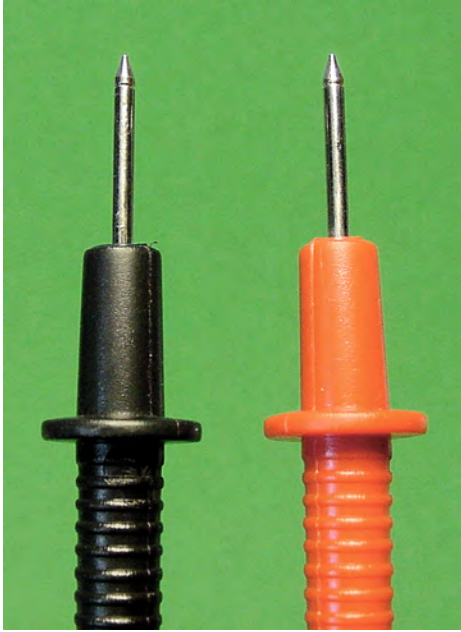

Figure 8-7. Multimeter probe tips not touching
4. Do not touch the metal tips of the probes to anything at this point (see Figure 8-7). If the meter isn't already turned on, press the power-on button.